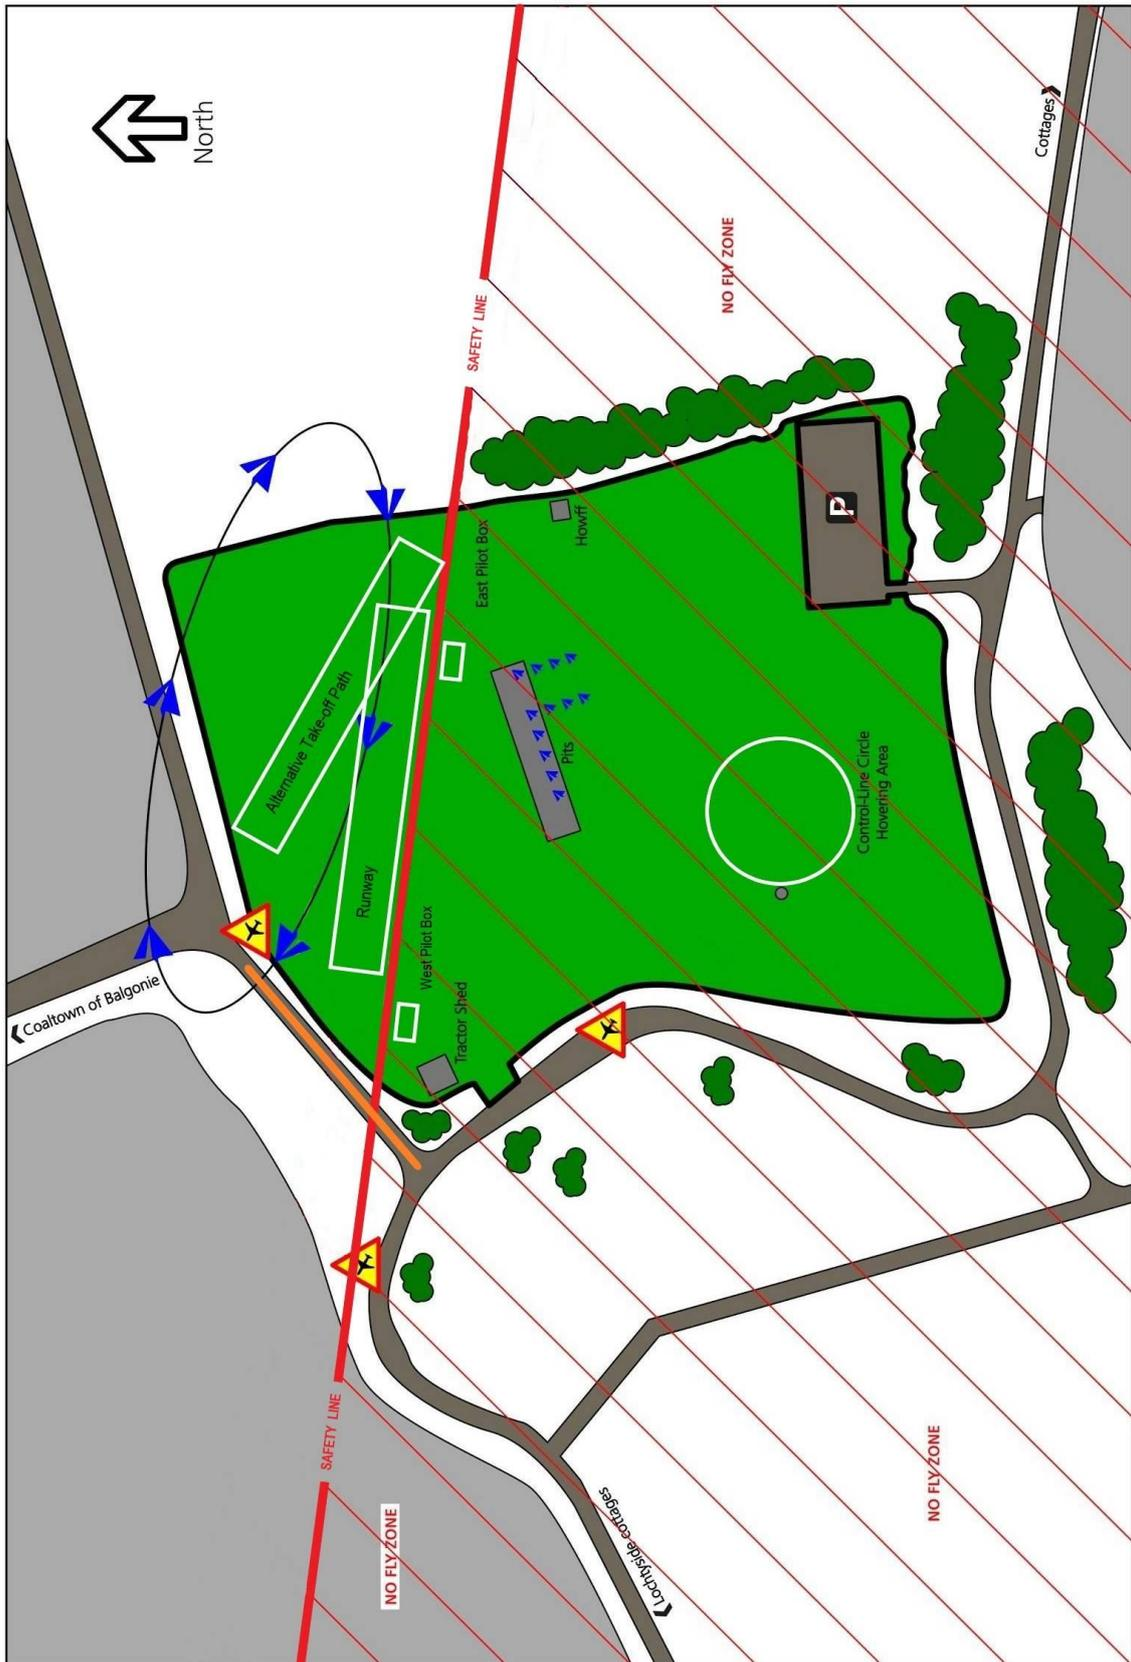
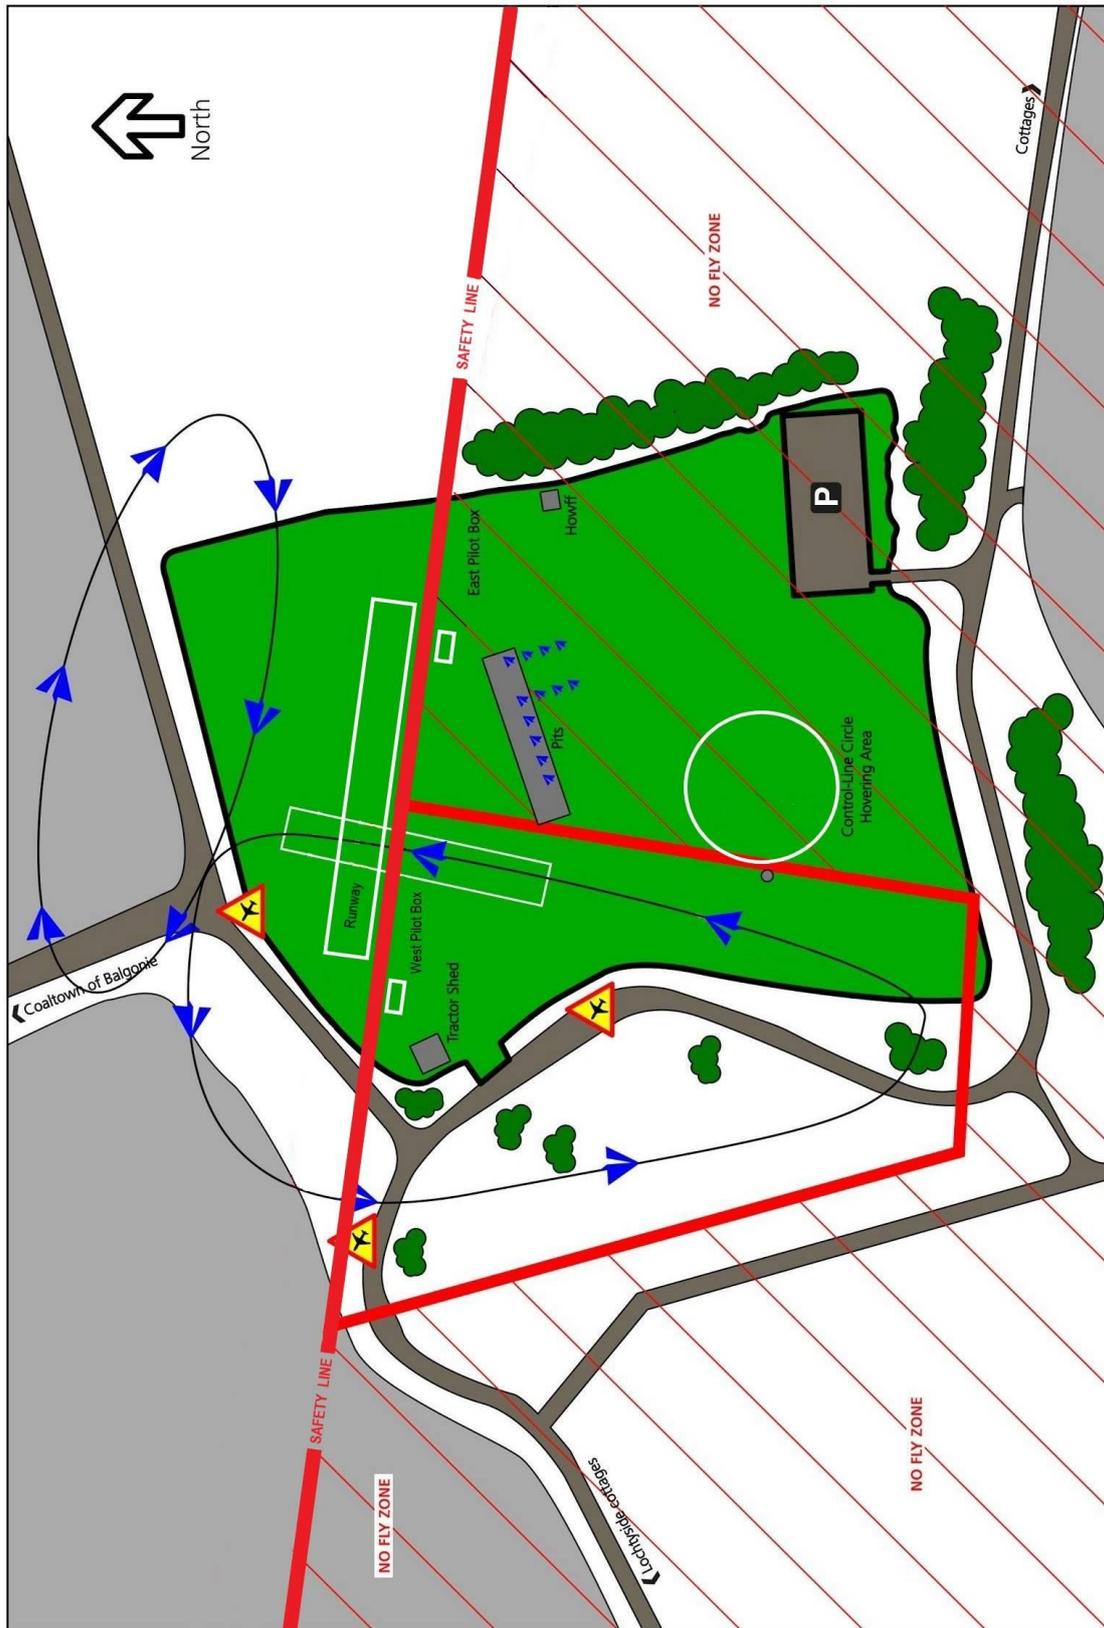

Fig 1 - East or West Active Runway
Fig 2 - North-South Active Runway - Take-off and Landing only - East pilot box
- 2.4 All members should assume, from a personal safety perspective, that both the east-west and north-south runways (see figs 1 and 2) are active at all times and extend the appropriate care, attention and awareness at all times.
- 3.3 Models over 7.5kg are restricted to a maximum altitude of 400 feet (122 metres). Whilst flying models over 7.5kg, **Warning Low Flying Model Aircraft** signs must be displayed. See Figs 1 and 2 for sign placement.
- 5.1 A model pits area will be established no less than ten metres from the car park and the pits will be confined to the areas marked on the map within Figs 1 or 2.
- 6.1 **Glenrothes Aeromodelling Club** operate two runways, east – west (primary) - see Fig 1 - and north - south (secondary) - see Fig 2.
- 6.2 The safety line (see Figs 1 and 2) is a line extended from the grey box on the railway line to the east of the flying field and through the trees to the north-west of the tractor shed.
- 6.3 Take-off, hand launching, climb-out, approach, landing and low-pass manoeuvres must all be conducted at least five metres north of the safety line when either east-west or west-east runways are in use. The safety line is denoted by the marked grass at the edge of the runways. (Figs 1 and 2). For additional requirements for climb-out from and approach to the West end of the east-west runway see Para 2.7.
- 6.11 When the north-south runway is in use, it is to be used for take-off and landings only. Take-offs are restricted to north only whilst landings can be from the north or south. Take-off, hand-launch and all flying, must be conducted at least five metres to the north of the safety line. All approaches and landings from the south must stay inside the extended pocket as marked in Fig 2 and must not stray into the hatched no-fly zone.
- 6.12 When the west pilot box is active, the north-south runway will be taken out of use. The safety line and the no-fly zone in fig 1 will apply.
- 6.13 When the east-west runway is in use and the east pilot box is active, pilots will be unable to see persons using the section of road marked in orange (see Fig 1). Pilots must not attempt take-off to the west without being certain that that section of the road is clear by
- Should it not be possible to confirm the section of road is clear, an alternative take-off path to the north-west (see Fig 1) may be used.
- 6.14 When the control-line circle/hovering area is in use, the no-fly zones in fig 1 will apply. That is, all take-offs, landings, flying and emergency approaches must be completed to the north of the safety line.